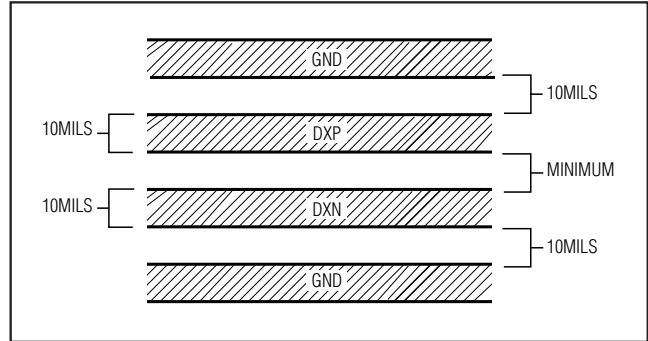

Figure 4. Recommended DXP-DXN PC Traces
- 3) Route the DXP and DXN traces in parallel and in close proximity to each other, away from any higher voltage traces, such as 12V DC. Leakage currents from PCB contamination must be dealt with carefully since a 20MΩ leakage path from DXP to ground causes about 1°C error. If high-voltage traces are unavoidable, connect guard traces to GND on either side of the DXP-DXN traces (Figure 4).
- 6) Use wide traces. Narrow traces are more inductive and tend to pick up radiated noise. The 10mil widths and spacing recommended in Figure 4 are not absolutely necessary, as they offer only a minor improvement in leakage and noise over narrow traces. Use wider traces when practical.